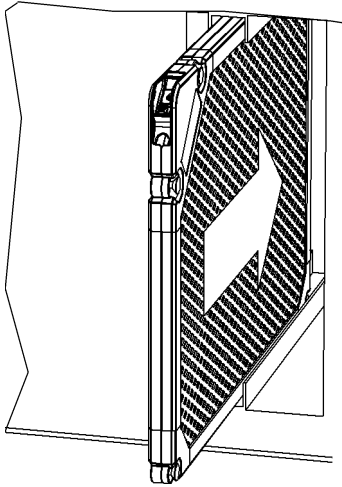

Fig. 9 — Replacing Electronic Air Filter
9. Place the electronic air cleaner back in the filter rack. See Fig. 9.